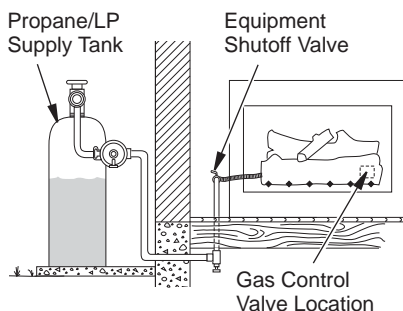

Figure 18 - Checking Gas Joints (Propane/LP Model Shown)
3. Check all joints from gas meter to equipment shutoff valve for natural gas or propane/LP supply to equipment shutoff valve for propane/LP (see Figures 18 and 19, page 16). Apply noncorrosive leak detection fluid to all joints. Bubbles forming show a leak.
4. Check all joints from equipment shutoff valve to control valve (Manually-Controlled Models) or to gas control (Remote-Ready Models) (see Figures 18 and 19, page 16). Apply noncorrosive leak detection fluid to all joints. Bubbles forming show a leak.